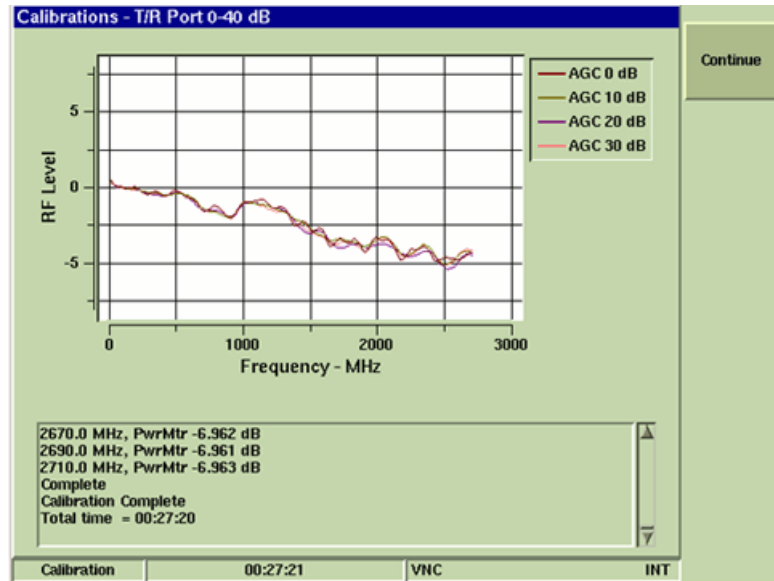

Fig. 4-31 T/R Port 0-40 dB Signal Trace
- When the T/R Port 0-40 dB Calibration Procedure is complete, verify Calibration Complete is displayed in dialog box. Verify signal traces on Test Set resemble signal traces shown in Fig. 4-31.